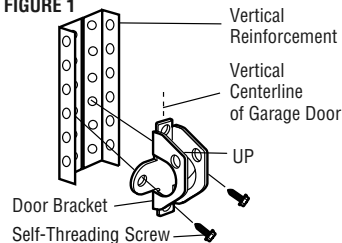

FIGURE 2
- Alternately, use two 5/16"-18x2" bolts, lock washers and nuts (not provided). (Figure 2)